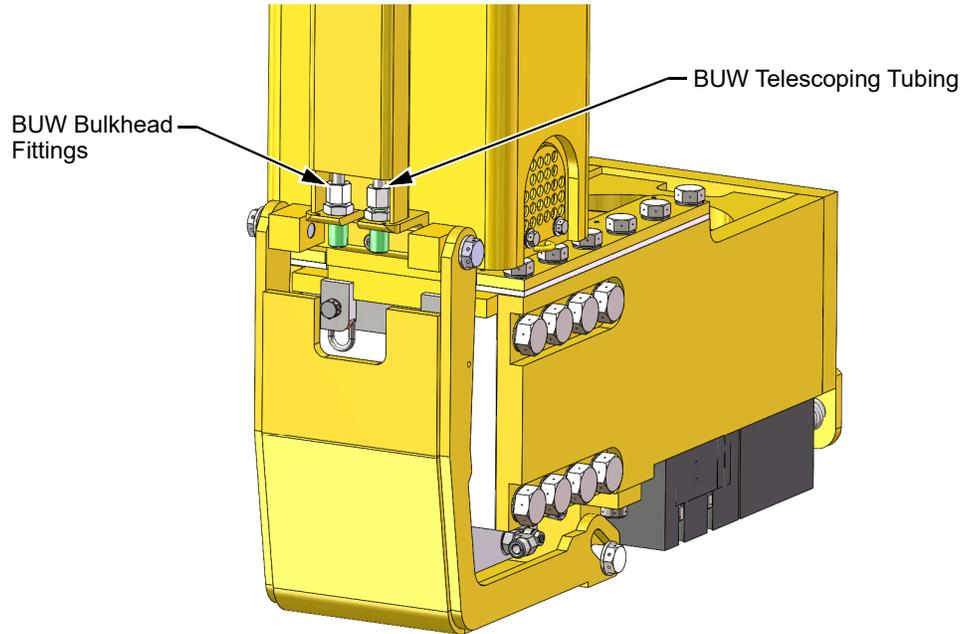

Figure 7: BUW Bulkhead Fittings and Telescoping Tubing
3. Re-install bulkhead fittings and reconnect the telescoping tubing and hoses as shown in Figure 7.